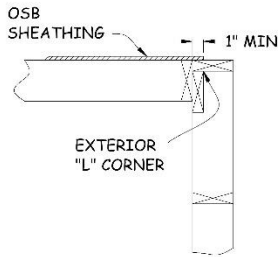

Figure 3-6. Exterior L-Corner.
5. At each end of the long walls, layout an L-corner with two 2x6 studs made up of the normal 2x6 end stud plus an extra 2x6 stud perpendicular to the end stud on the interior side of the wall (see Figure 3-6). Mark the "L" as "Corner Down" to specify that the extra 2x6 will lay face down on the deck as the wall is being built. This will place the existing 2x6 stud facing the end of the adjoining short wall forming an inside corner.